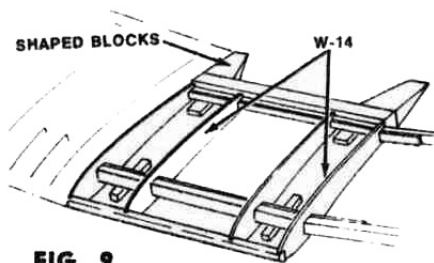

FIG. 9
31. Remove wing from plan. Slide four **W-14** ribs over projecting ends of wing, spars, getting them in approximately correct position in the wing center panel. As with the panel just made, weight down the spars with $3/16"$ shim under them. Slide ribs to exact position and glue. See **Figure 9 and 10**. Glue in **W-13** and $1/2" \times 3/4" \times 4"$ bass block. Glue on L. E., the balsa block. T. E. Pieces and cap spars with $1/16" \times 1/4"$ to support the center $1/16"$ sheeting, which is now glued in place. Don't forget to bevel one edge where the sheet sticks to the L. E.